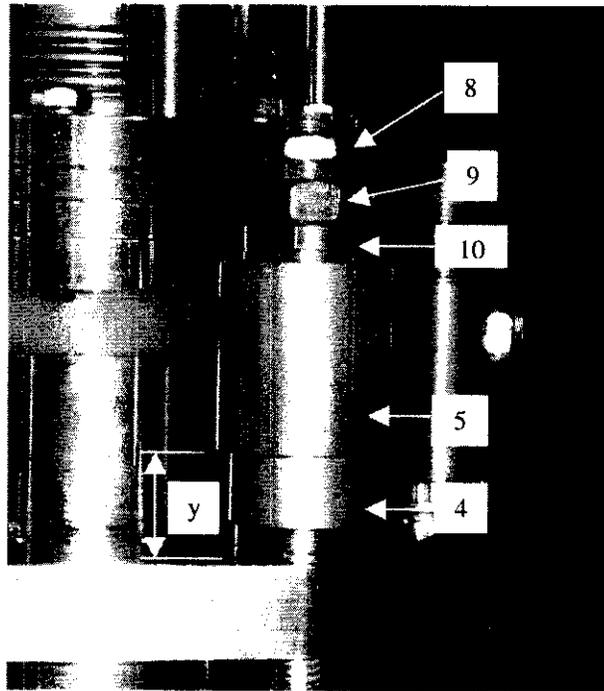
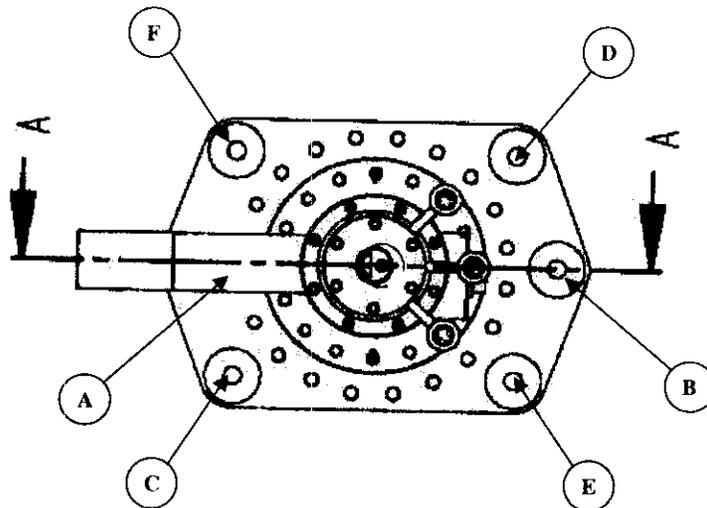

Figure 1.28a An installed Belleville Washer Assembly.
Figure 1.29.1.5 The specified sequence for tightening the Belleville Washer Assemblies.
- 1.28** Install Belleville Washer Assemblies on each tensioning stud per Figures 1.28a and 1.28b. A spherical washer must be placed below the Belleville washer holder on each stud. In the figures: Items 11 (10 each) are Belleville Washers, arranged as shown; Items 6 (2 each) are flat washers; Items 4 and 5 are the Belleville Washer Holder; Item 10 are Spherical Washers for above and below the washer holder; Item 9 is a loading nut; and Item 8 is a jam nut.
- 1.29.1.2** Tighten the 6 loading nuts finger-tight. With adjustable parallels, measure and record the gap "y" indicated in Figure 1.28a between Item 5 and the current lead top flange at the 6 locations specified in Figure 1.29.1.5. Units are mm.
- 1.29.1.4** Using the sequence A through F in Figure 1.29.1.5, tighten the loading nuts 1/4 turn until the total compression is 1.8 mm at each of the six locations. As each loading nut is tightened 1/4 turn, check off the appropriate line.
1.29.1.5 Remove the adjustable parallels from under each Belleville washer assembly, then replace them and measure the final gaps 'y' in Figure 1.28a. Units are mm.
1.29.2.2 Tighten the 6 loading nuts finger-tight. With adjustable parallels, measure and record the gap "y" indicated in Figure 1.28a between Item 5 and the current lead top flange at the 6 locations specified in Figure 1.29.1.5. Units are mm.
1.29.2.4 Using the sequence A through F in Figure 1.29.1.5, tighten the loading nuts ¼ turn until the total compression is 1.8 mm at each of the six locations. As each of the loading nuts is turned ¼ turns, check off the appropriate line.
1.29.2.5 Record the final measured gaps 'y' in Figure 1.28a. Units are mm.